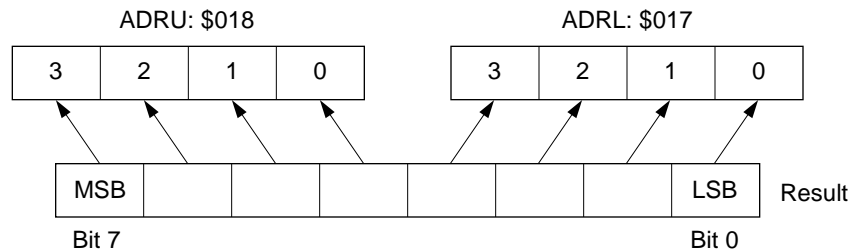

Figure 58 A/D Data Register
- A/D data registers (ADRL: \$017, ADRU: \$018) are read-only registers used to store the conversion result. (ADRL: lower 4 bits, ADRU: upper 4 bits.) These registers cannot be cleared by a reset input. Also, data in these registers are not guaranteed during the conversion period. After the conversion is completed, an 8-bit result is set to these registers and kept until the next conversion starts (figures 58, 59, and 60).